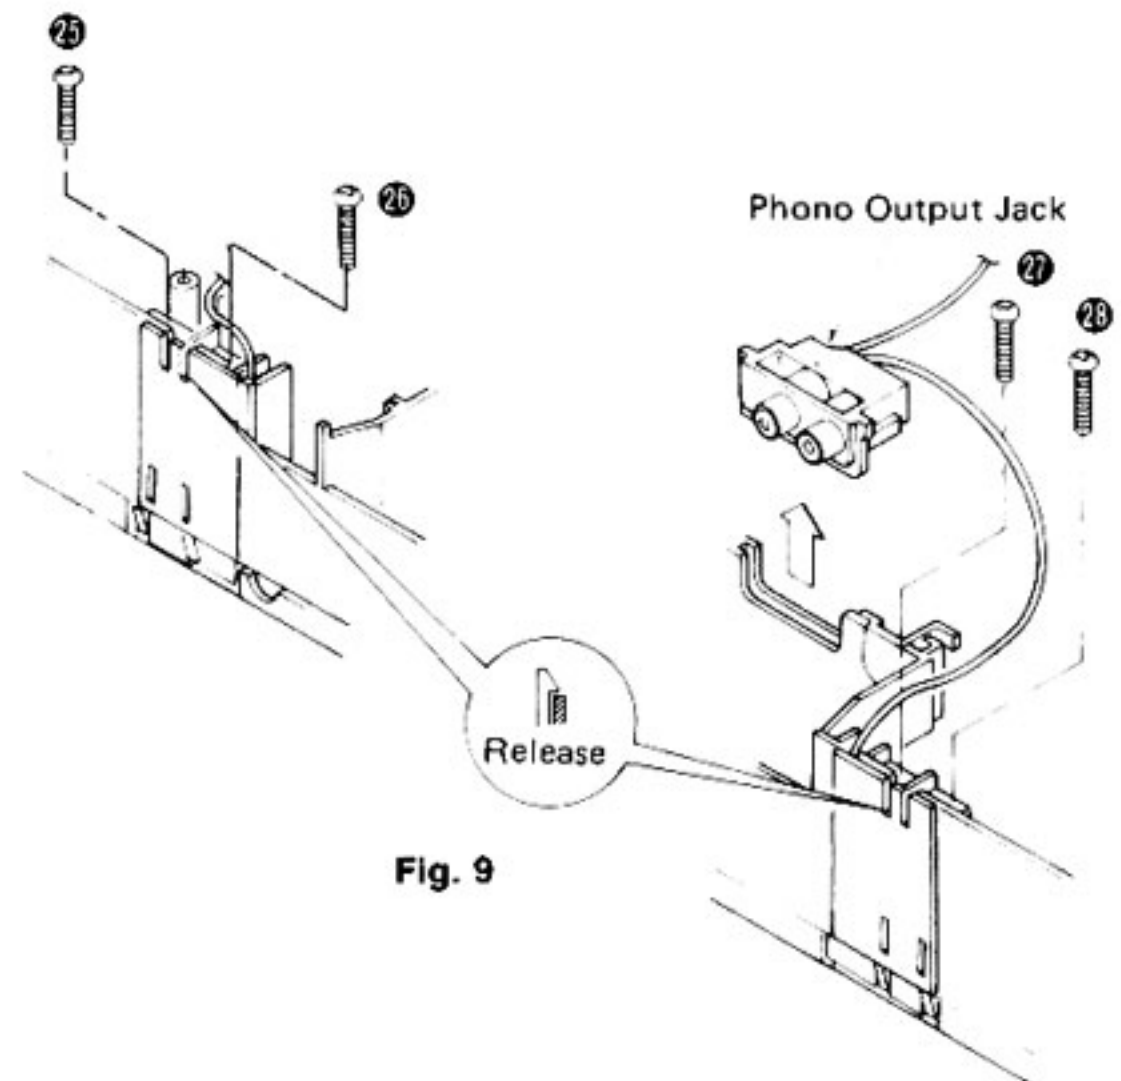

Fig. 9
3. Remove the 4 hinge setscrews (Fig. 9: ㉕~㉔) and the phono output jack.